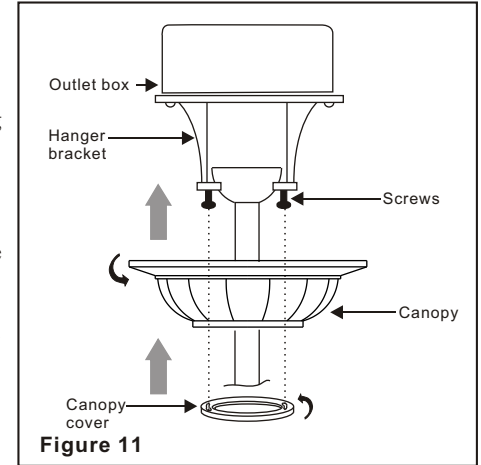

Figure 11
Step 2. Slide the canopy up to ceiling and over the 2 screws on hanger bracket. Rotate canopy clockwise, next, while holding the canopy with one hand, slide the canopy cover over the screws and rotate clockwise until tight. Note: adjust the canopy screws as necessary until the canopy and canopy cover are snug. (Fig. 11)